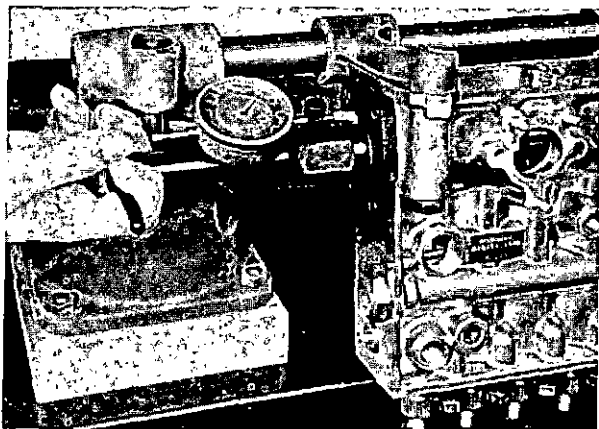

Fig. 37 Checking camshaft end float.
15. Measure the camshaft end float by using tool 0 681 440 013, screwed on to the drivenut thread, and dial gauge 1 687 233 011, as shown in fig. 37. Limits are 0.02 to 0.06 mm (0.008 to 0.024 inch). Adjust if necessary by varying the shims beneath the bearing plate. Fit the 'O' ring when finally assembling the bearing plate.